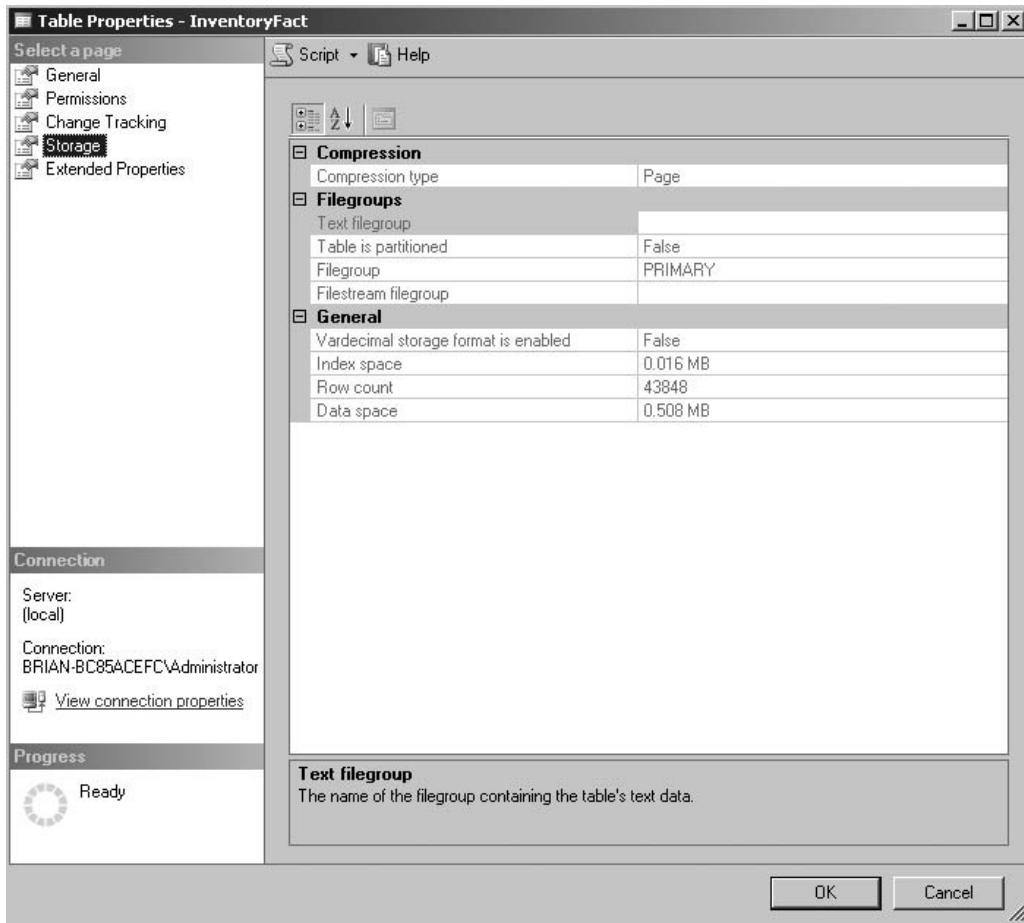

Figure 6-36 The Table Properties dialog box showing page compression turned on
6. Select the Storage page of the Table Properties dialog box. Note the Compression type shown near the top of the page. This is shown in Figure 6-36.